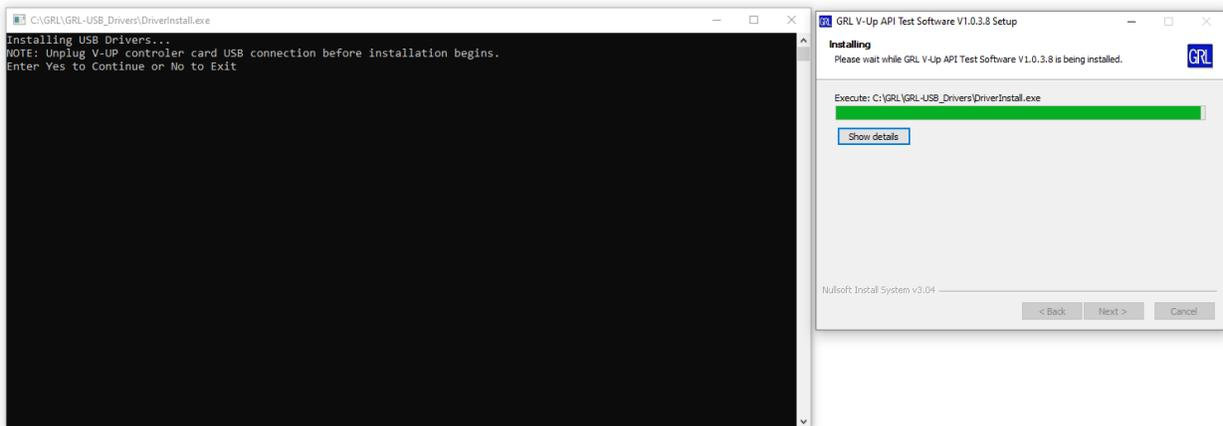
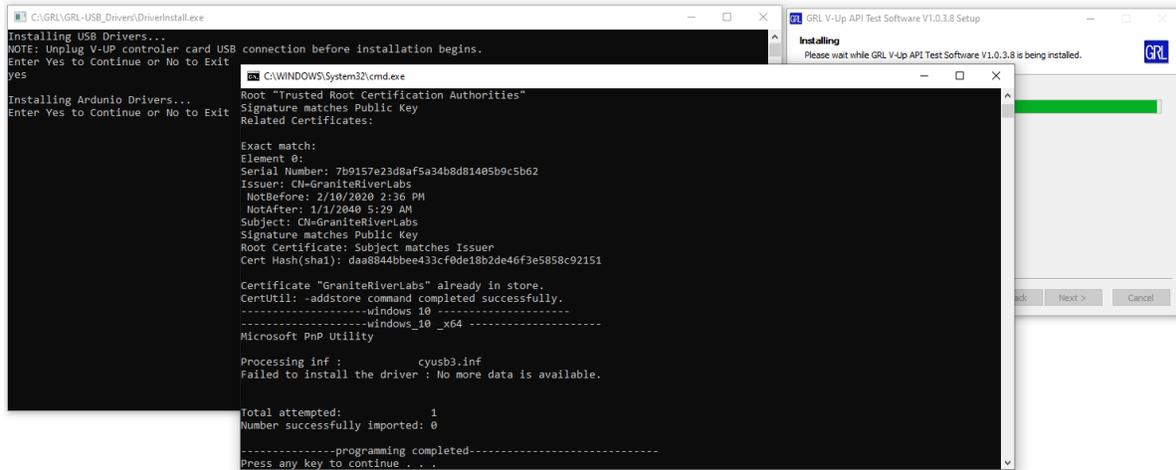

Figure 10. GRL-V-UP USB Drivers Installation in Progress #1
Figure 11. GRL-V-UP USB Drivers Installation in Progress #2
- While installation is running, a Command prompt window for GRL-V-UP USB driver installation will pop up as shown in Figure 10 below. Type “YES” and press the “Enter” key to install the USB drivers. Once the drivers have been installed, the user will be asked to press any key as shown in Figure 11. This will complete the driver installation and will proceed to begin installation for GRL-V-UP Arduino drivers.